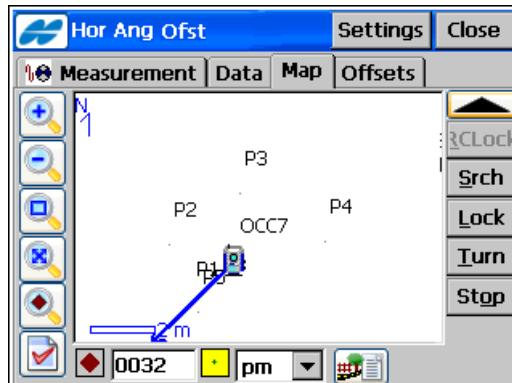

Figure 9-12. Horizontal Angle Offset – Map Tab
- The *Map* tab (Figure 9-12) on the ***Hor Ang Ofst*** screen contains the graphic view and duplicated controls from the *Measurement* tab. For the details on viewing and customizing properties, see “Viewing Map” on page 12-1.